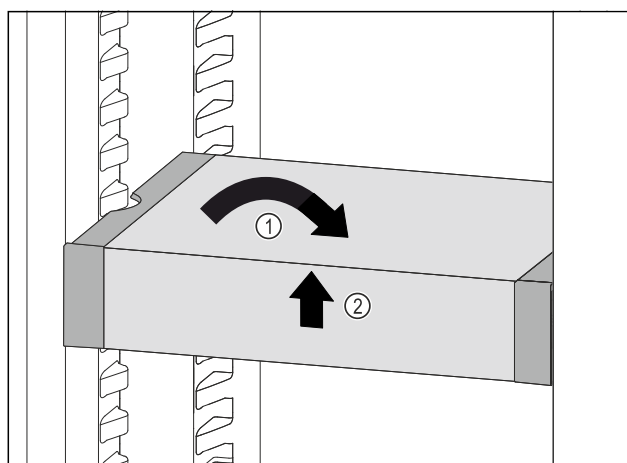

Fig. 148
- Set VarioSafe straight. Fig. 148 (1)
- Lift VarioSafe at the front. Fig. 148 (2)